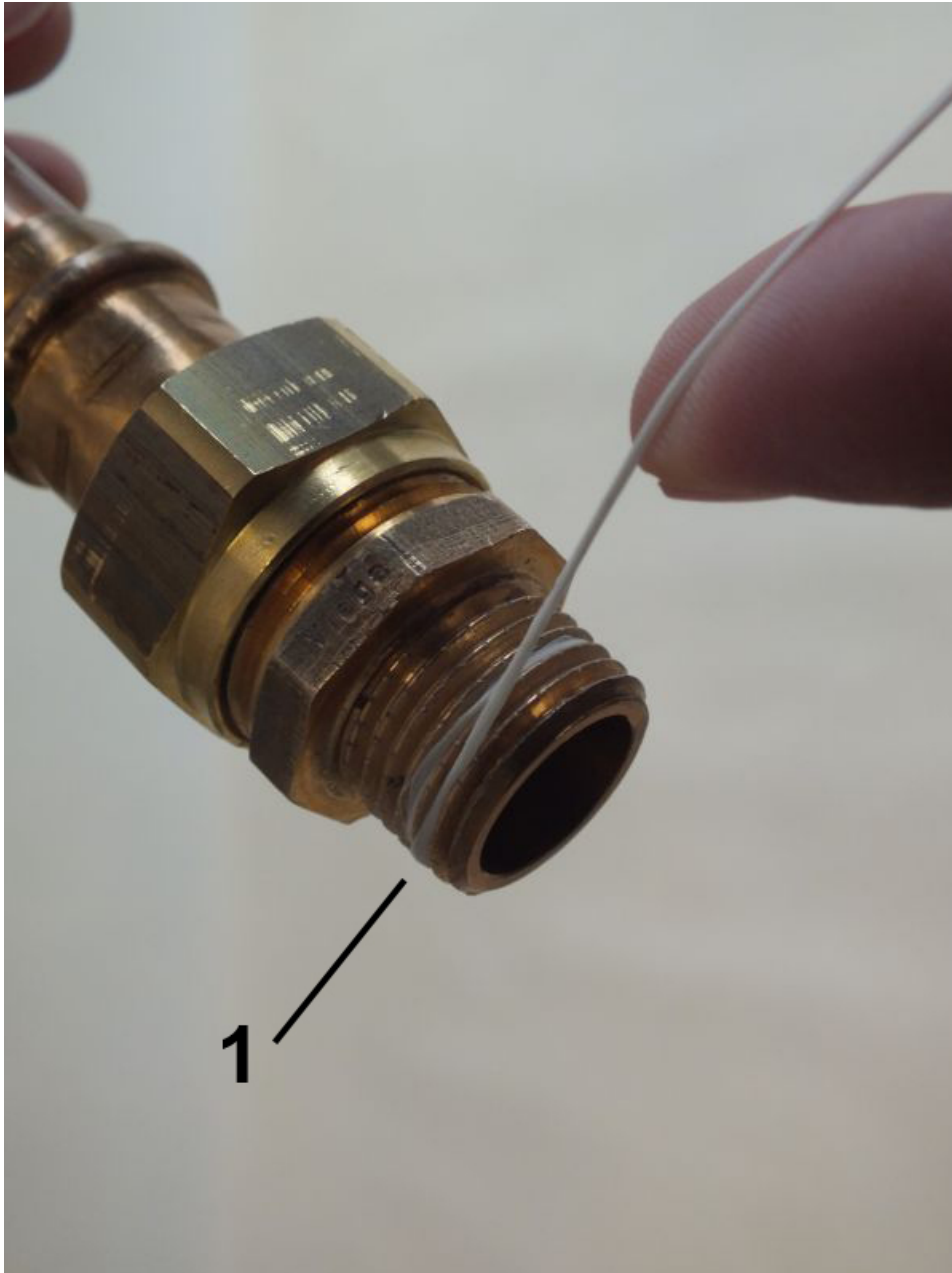

Fig. 8: Apply sealing thread
- 2.** Apply sealing thread (Fig. 8/1) to the napped area in the threaded direction. Observe the quantity recommended by the sealant manufacturer.